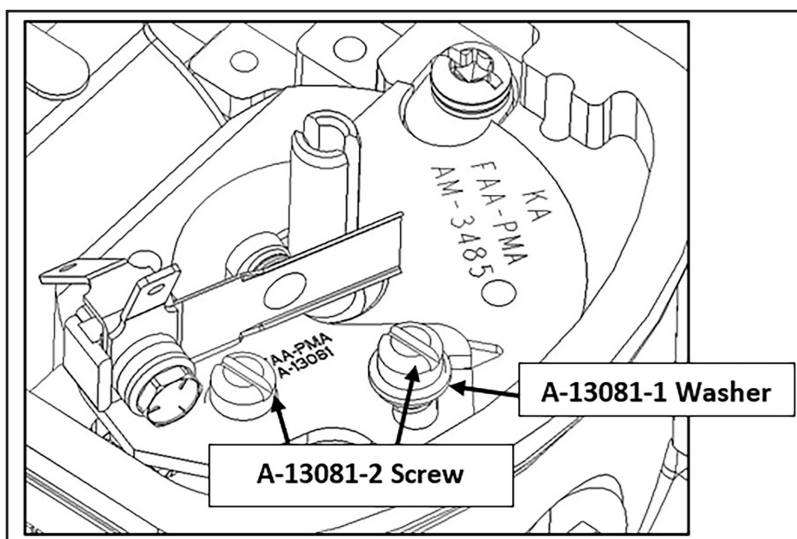

Figure 6.6 – Attach the Contact Assembly
- (1) Attach the contact assembly (11) to the bearing cap (8) using the A-13081-2 contact assembly mounting screws (12) and lock washer (13) as shown in Figure 6.6.
- (2) Proceed to § 6.13.D.